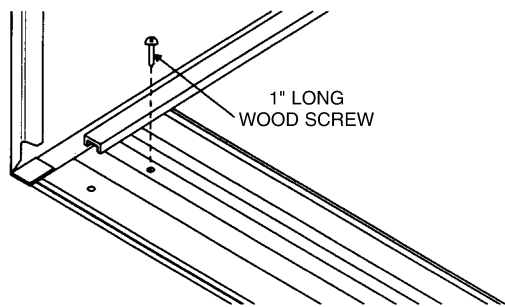

FIGURE 24 — SECURING BOTTOM RAIL OF CABINET
14. Secure bottom rail to wood frame with two large wood screws (1-in. long) using the two holes in the bottom of the channel. See Fig. 24.